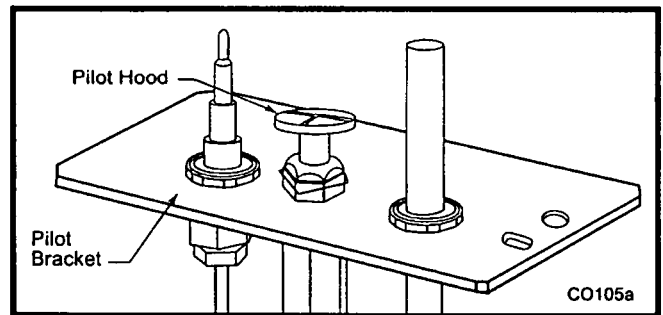

Fig. 54 Remove pilot hood.
6. Replace the three (3) injectors. Refer to Table 1.
8. Remove pilot hood by lifting up. (Fig. 54) **NOTE:** It is not necessary to remove the pilot tube for conversion.